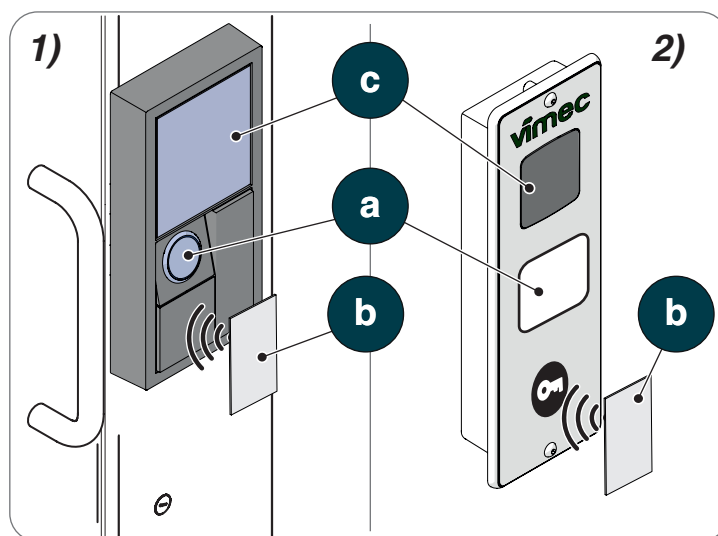

Fig. 7.4
Near each landing door there is a control push-button panel (Fig.7.4) which may contain the following devices (depending on how the machine was configured when purchased):
- Call button (a, Fig.7.4), found as standard in all versions.
- Display (c, Fig.7.4) (optional)
- RFID key (b, Fig.7.4) (optional)
- If the floor call is not enabled with the machine free (light off) and the call button is pressed (a, Fig.7.4), the light flashes once every 0.5 seconds (unavailable call signal)
The platform can be called only when the floor light indicates that it is free, (see light signal table below). Press and hold the button (a, Fig.7.4) for 2 seconds to open the landing door; the floor light will switch to the busy status and it will not be possible to call the platform from another floor. If the platform is on the floor, the door is unlocked and it is possible to enter; if it is not on the floor, it is moving towards it. Having entered the cabin, press the run button for the desired floor; the corresponding button will light up. Having reached the destination floor, the platform automatically stops in the correct position, the landing door is unlocked and it is possible to exit the platform. The busy signal on the floor goes off and the platform is available for a new ride.